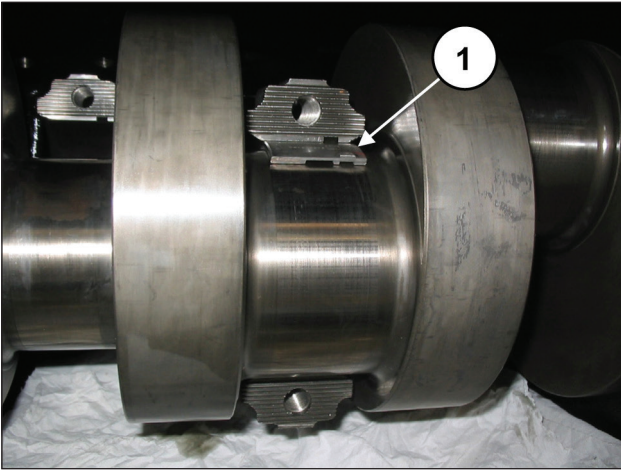

Fig. 57
Insert the upper half-conrod between the conrods and the shaft (pos. ①, Fig. 57).